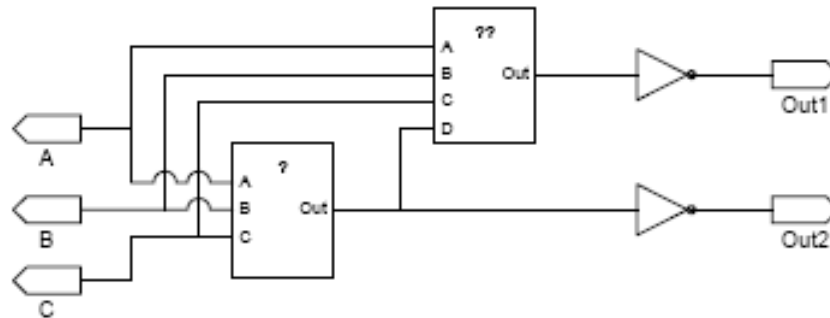
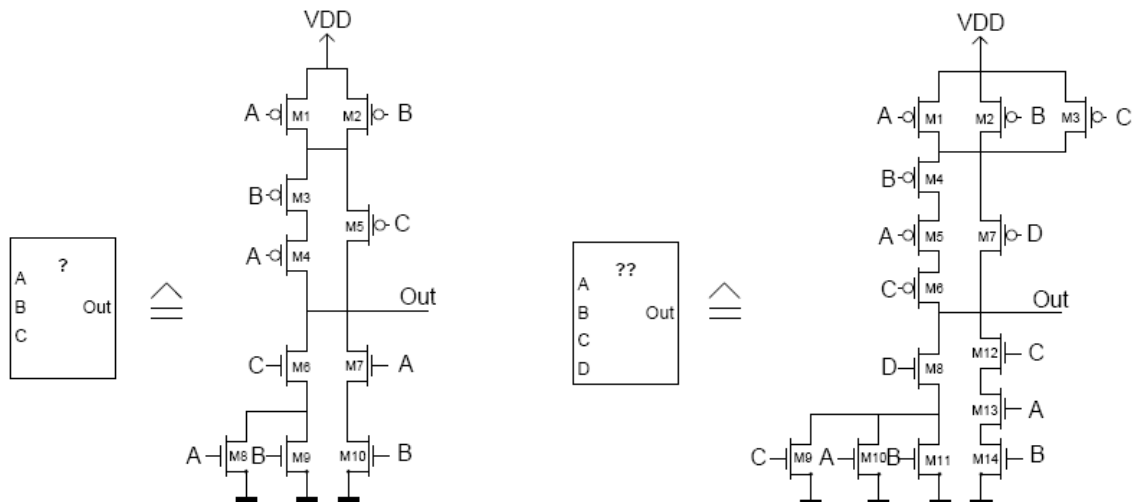

Figure 1: Block diagram of unknown logic circuit
Figure 2: Transistor level schematic of logic gates in circuit of Figure 1.
Figure 1 shows the block diagram of a digital circuit with two standard inverters and two complex logic gates. The details of the two complex logic gates are shown in Figure 2.
The circuit in Figure 1 implements a full adder
- 2) Size all the transistors in Figure 2, such that the gates “?” and “??” have a worst case pull-up and pull-down performance approximately equal to a unit sized inverter. When doing so try to minimize the maximum input capacitance seen at any input. Assume long channel devices, use integer ratios when scaling the devices and neglect body effect.